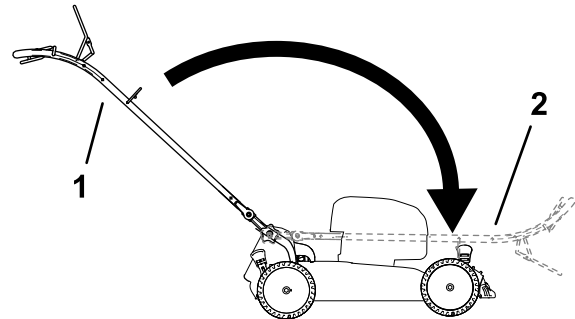

Figure 17
2. Fold the handle by rotating it forward (Figure 17).